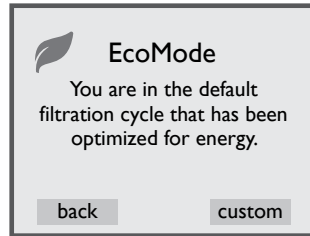
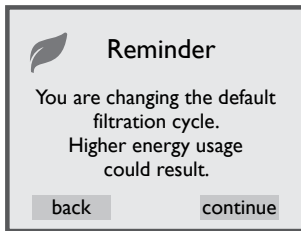
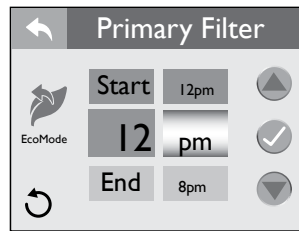

Figure 12.2b
Figure 12.3a
Figure 12.3b
To access the “Primary Filter” feature, tap **custom** from the EcoMode menu, Figure 12.2b. Then tap **continue**, Figure 12.3a, to enter the “Primary Filter” programming menu, Figure 12.3b.
**Note:** To return to the EcoMode Menu, Figure 12.2b, press  from the Primary Filter menu, Figure 12.3b.